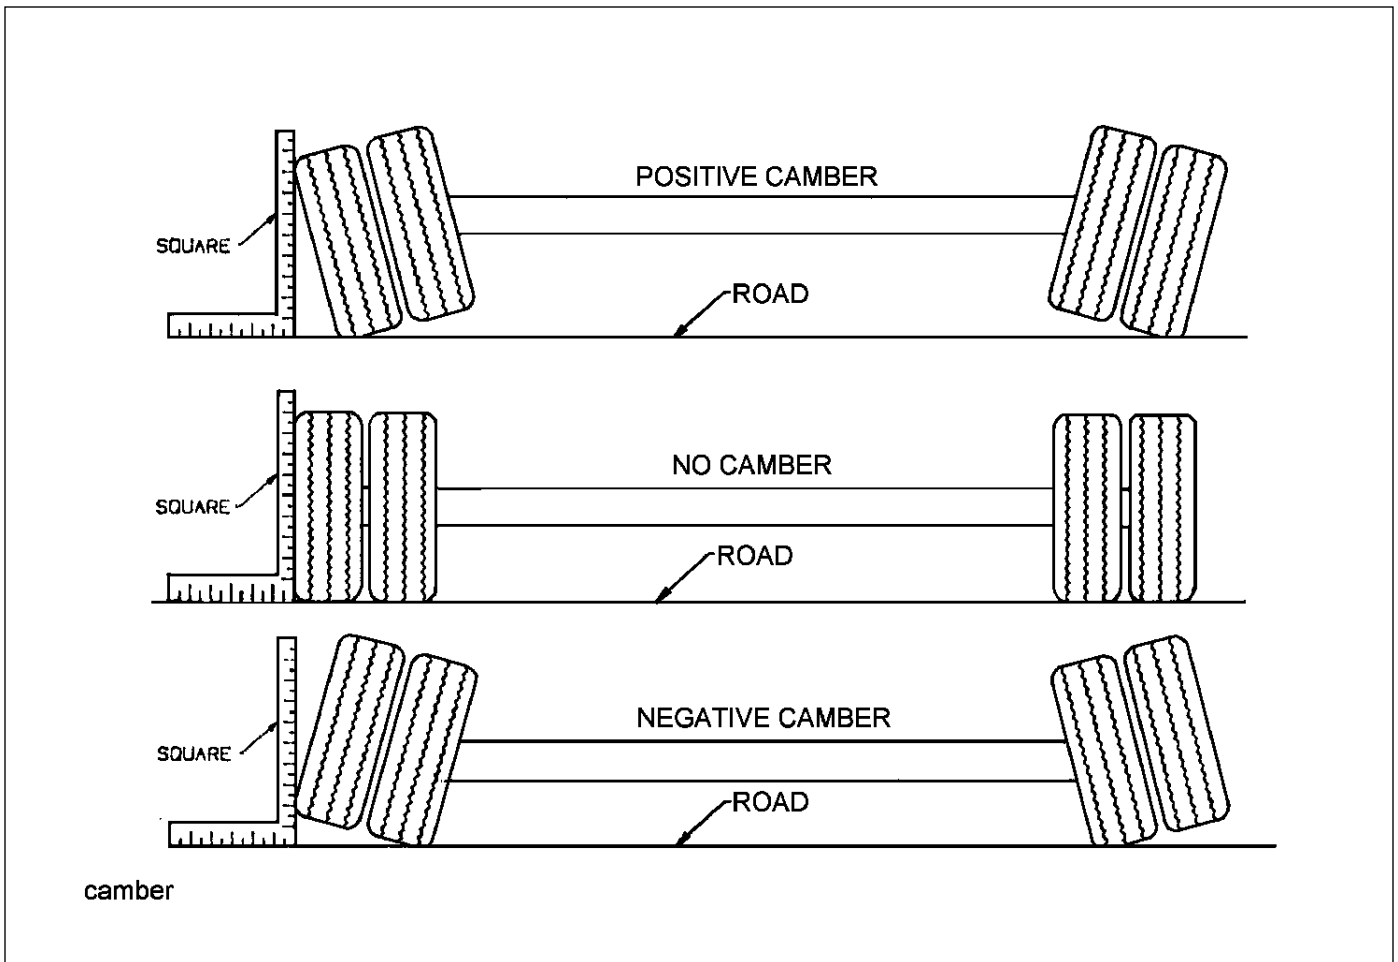

Figure 4-8: Examples of Camber
4. Follow the same procedures as in **steps 2 and 3**, except place the axle gauge above and below the axle. If gauge point gap is found, the axle has positive or negative camber. The trailer axle has no camber from the factory. If it is found to have positive or negative camber, axle replacement is necessary **(See Figure 4-8 for examples of camber)**.